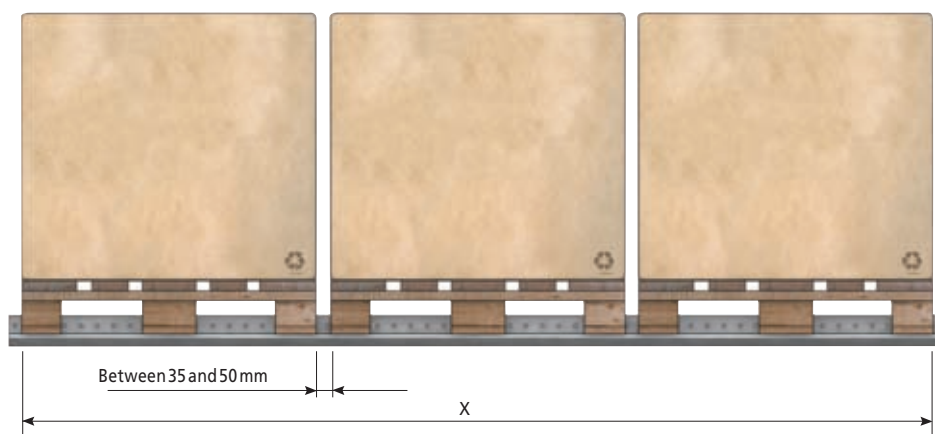

Figure 5
- X: the total depth of all the pallets (including the measurement of the load if it protrudes) plus a clearance for positioning, which varies from 35 to 50 mm per pallet, depending on the number of pallets (the more the pallets there are the less the clearance required) (figure 5).
For depth clearances, use the same criteria as for the GP-7 rail (figure 5).